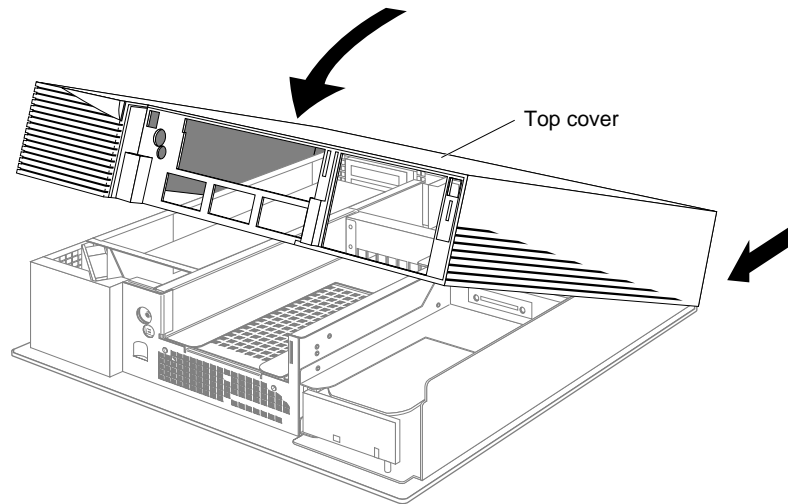

Figure 2-23 Replacing the Top Cover
13. Replace the top cover, as shown in Figure 2-23.